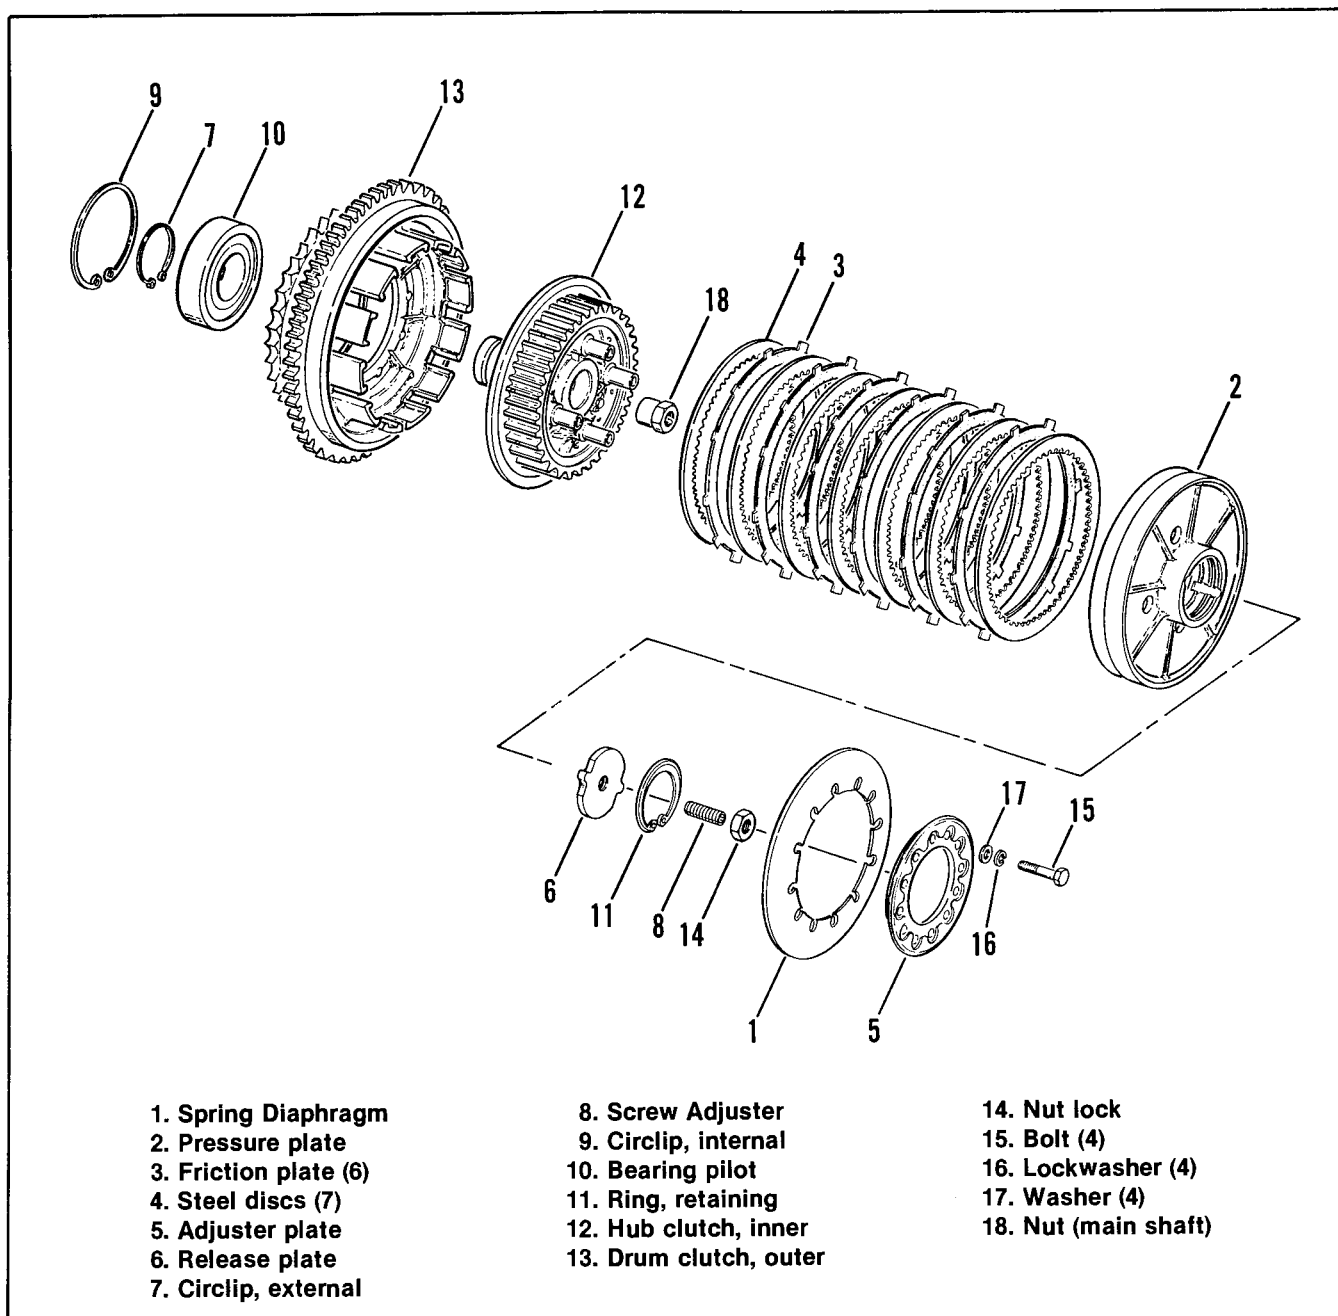

Figure 12. Clutch Assembly
2. See Figure 12. The adjuster plate (5), spring diaphragm (1) and pressure plate (2) are free and now removed. The friction plates can now be changed or inspected without any further disassembly.
3. Remove nut (18) from the end of transmission main shaft. See Figure 12. **The nut and shaft have left hand threads.** Remove push rod.
6. See Figure 12. Remove the steel discs (4) and friction plates (3).
7. With lock ring pliers, remove internal circlip (9) and external circlip (7).
CLEANING, INSPECTION AND REPAIR (Figure 12)
ASSEMBLY (Figures 12 and 13)